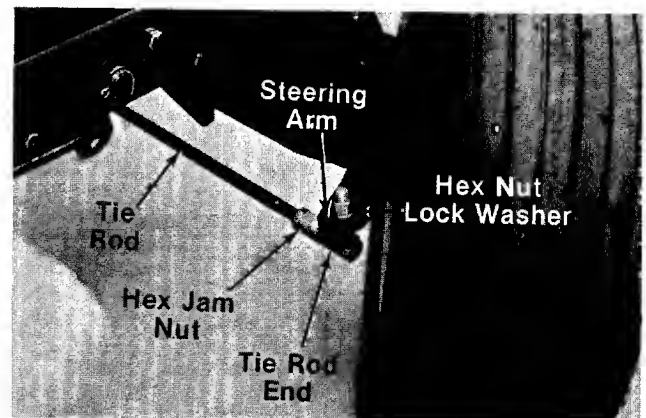

FIGURE 21.
1. Remove the hex nut and lock washer and drop the tie rod end from the wheel bracket. See figure 21.